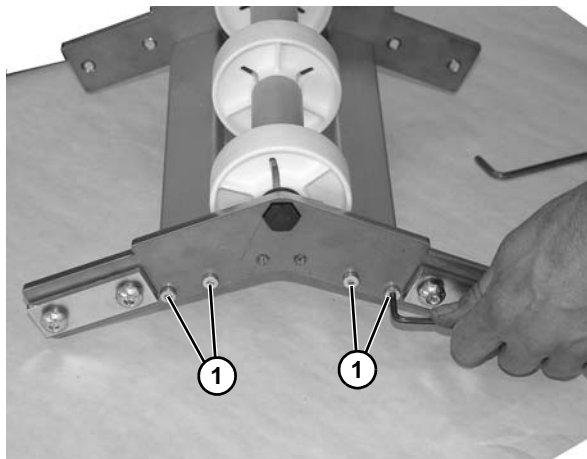

Figure 113
10. Remove four socket head screws (Figure 113, item 1) from upper knuckle assembly.